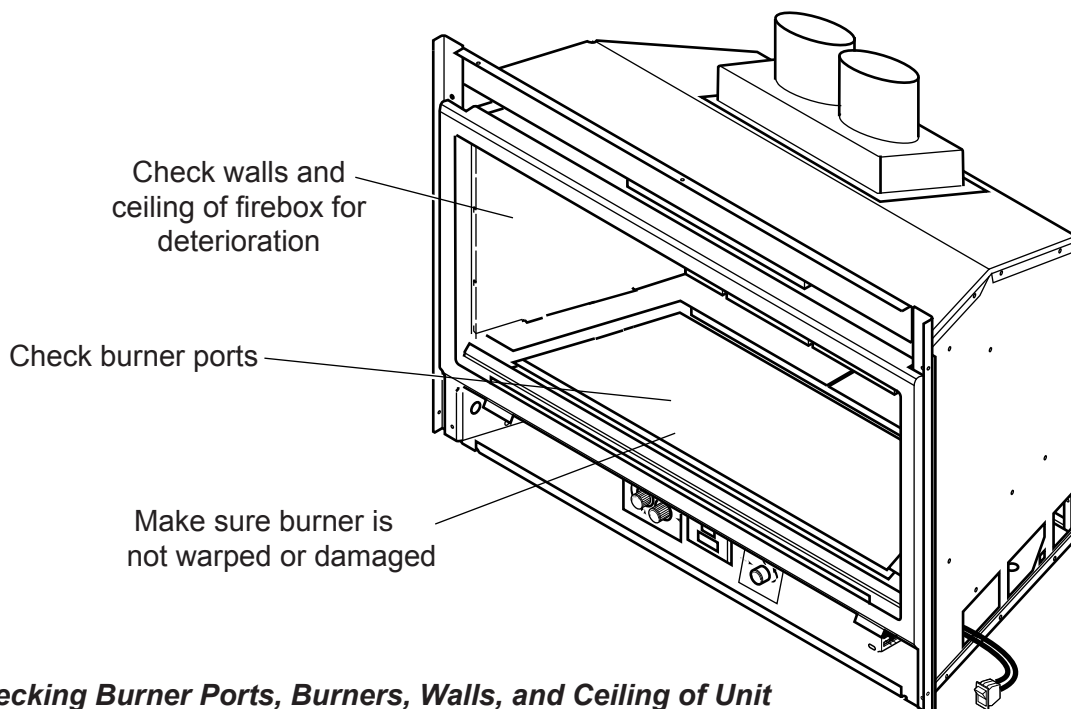

Figure 40 - Checking Burner Ports, Burners, Walls, and Ceiling of Unit
4. Clean burner and burner ports. Inspect the following. See Figure 40: